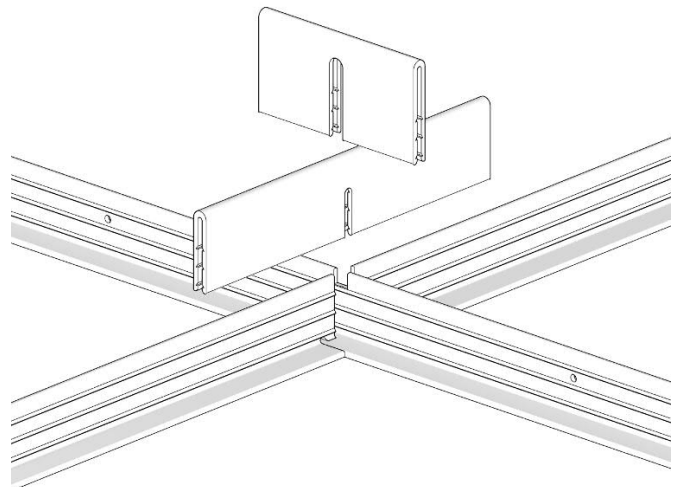

FIG. 10
1. Assemble the **Crossrail** to the **Mainrail** using an **Interlock Clamp** (**Cross Junction**). The use of an **Overlock Clamp** at the **Cross Junction** helps to assure a positive connection. The **Overlock Clamp** snaps to the **Mainrail**. These **Cross Junctions** occur at the **Location Notches** on the **Mainrails**. FIG. 10